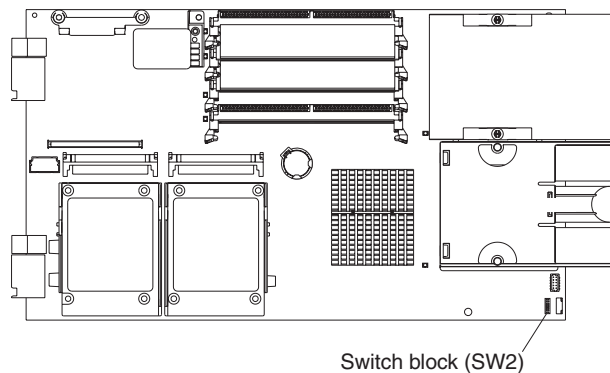

Figure 7. System board: BIOS backup page jumper
4. Locate switch block SW2 on the system board (see Figure 7).